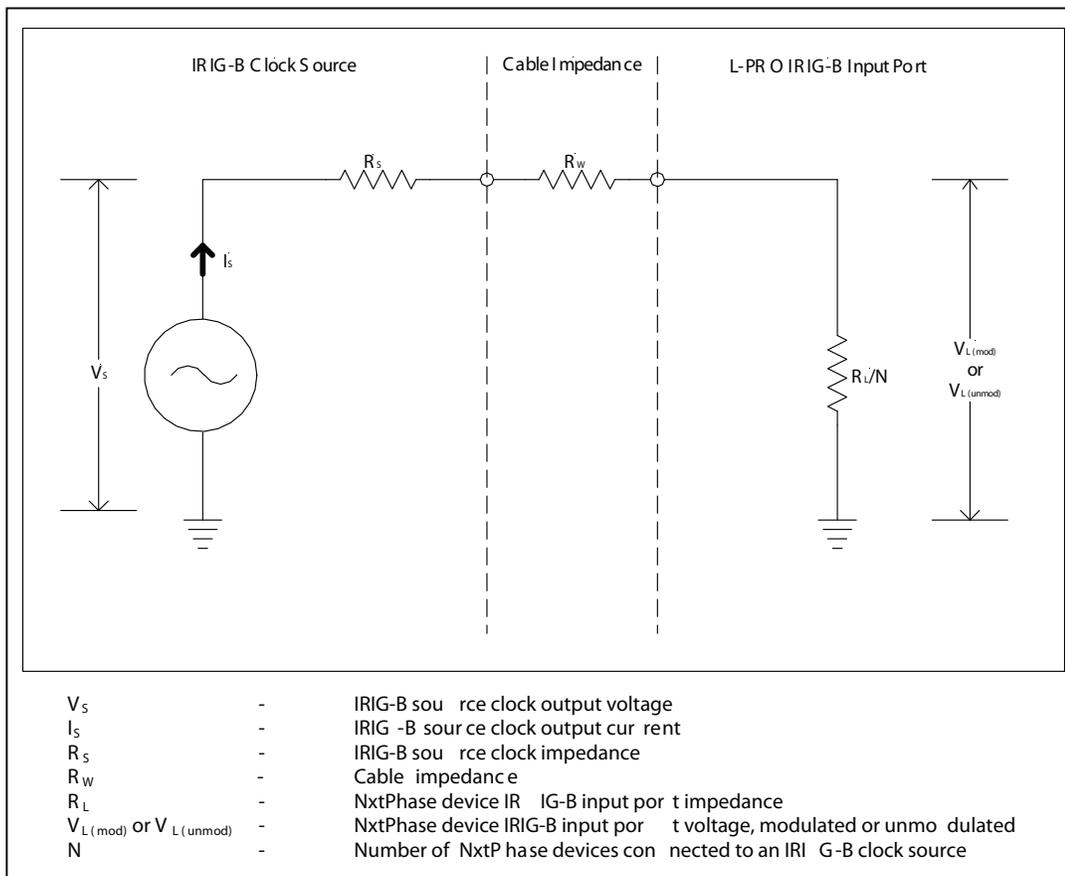

Figure 1. Simplified model of the IRIG-B clock source and ERLPhase L-PRO relay interface
Figure 1 provides an equivalent circuit for the IRIG-B input of ERLPhase relays and recorders.
There is a limit to the number of devices that can be connected to a single clock source. These methods and examples explain the underlying issues. Figure 1 provides a simplified circuit of the interface between the clock and connected devices. The maximum number of devices (N) that can be connected to the clock source is determined by checking if the source current (IS) required to drive the connected devices is less than the maximum drive current the clock source can provide, and verifying that the load voltage (VL) the connected devices see is greater than the minimum required voltage.